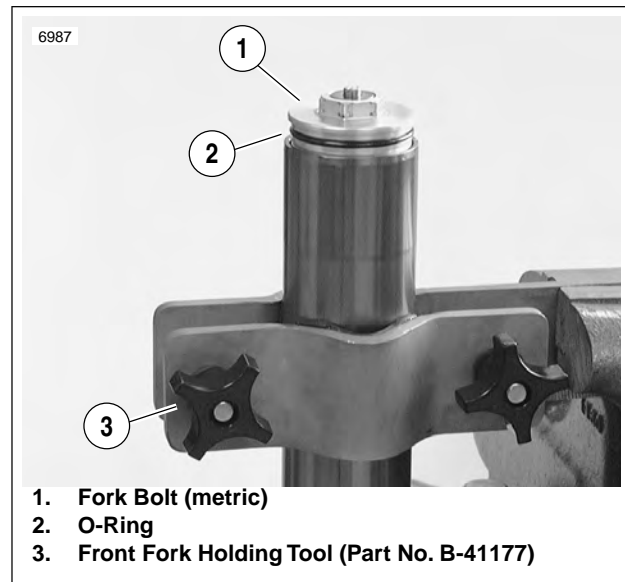

Figure 2-49. Fork Bolt
1. See Figure 2-49. Loosen the fork bolt (1) (metric) from the outer tube and slightly compress the fork leg. Remove the fork bolt with attached O-ring (2).
18. Set the spring seat stopper (3) between the spring collar (2) and the locknut. Remove the FRONT FORK SPRING COMPRESSOR.
19. See Figure 2-49. Apply oil to a **new** O-ring and install it into position on the fork bolt. Install fork bolt. Tighten to 22-29 ft-lbs (30-39 Nm).